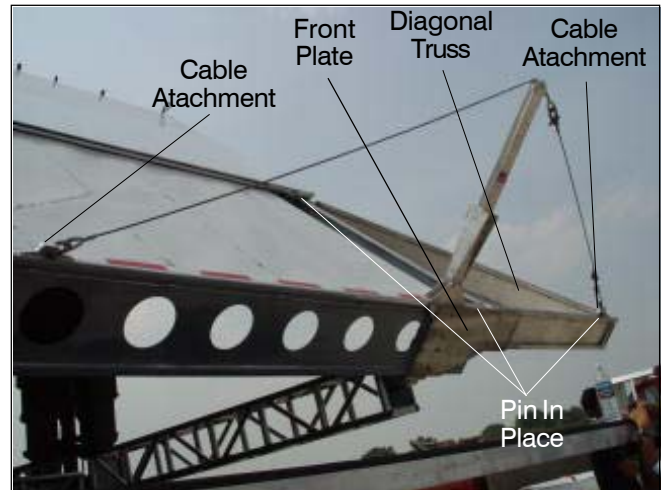

Figure 5.11 — Speaker Bays
9. Fold out the speaker bay trusses and secure in place by adding the diagonal truss. Pin the diagonal truss in place (refer to Figure 5.11).